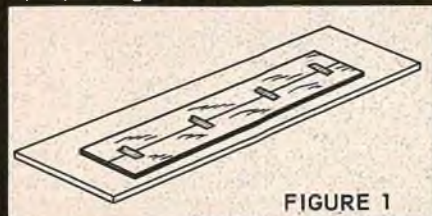

FIGURE 1
Step 1. Lay a piece of wax paper on your work table, then butt the two sheets together, and tape them with masking tape per Fig. 1.